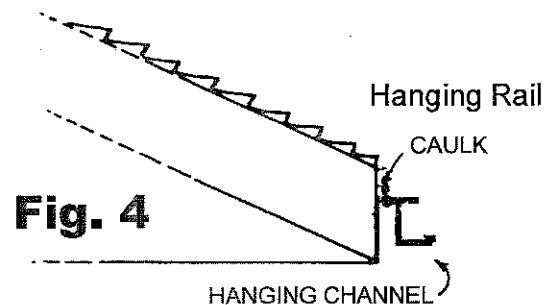

**Fig. 3**
- B.** Place hanging rail (s) (**Part 1-A**) in desired position on wall or fascia board and mark first hole to be drilled in hanging rail (s) (**Part 1-A**) relative to rafters or wall studs. (**Fig. 3**).